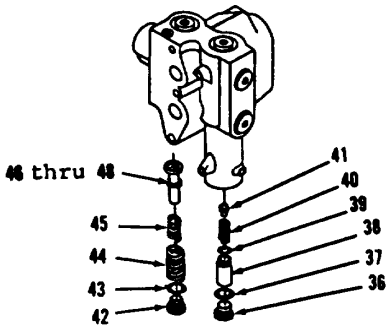

Figure 8-24.
- 15. Remove plug (36), preformed packing (37), retainer (38), shims (39), spring (40) and valve (41, Figure 8-24). Discard preformed packing (37).